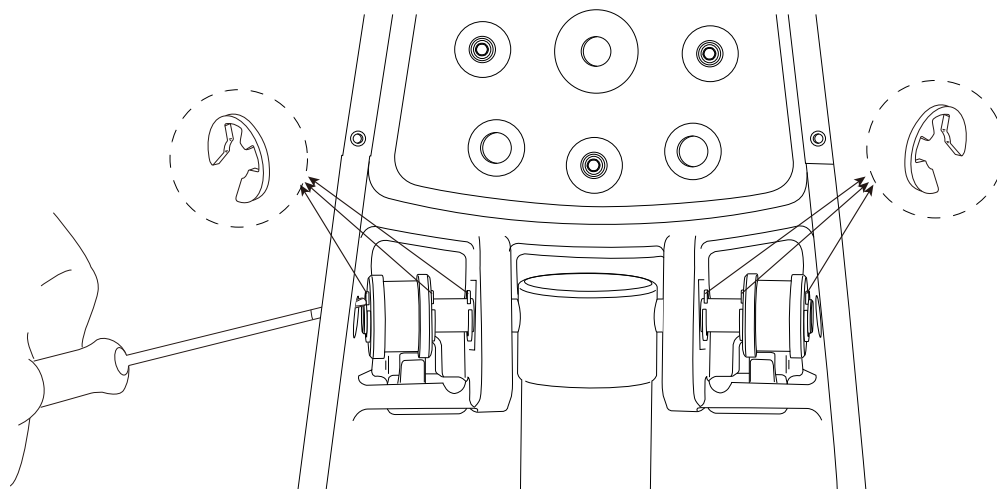

Figure 6. Removing six E-rings
**2** Using a small flathead screwdriver or E-ring removal tool, pry off all six E-rings from the front roller bar (see Figure 6).